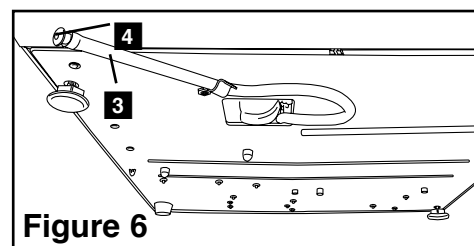

Figure 6
2. Using the drain tube (see section 3.5 Priming the Pump, Figure 6) empty the contents of the reservoir into the water container.